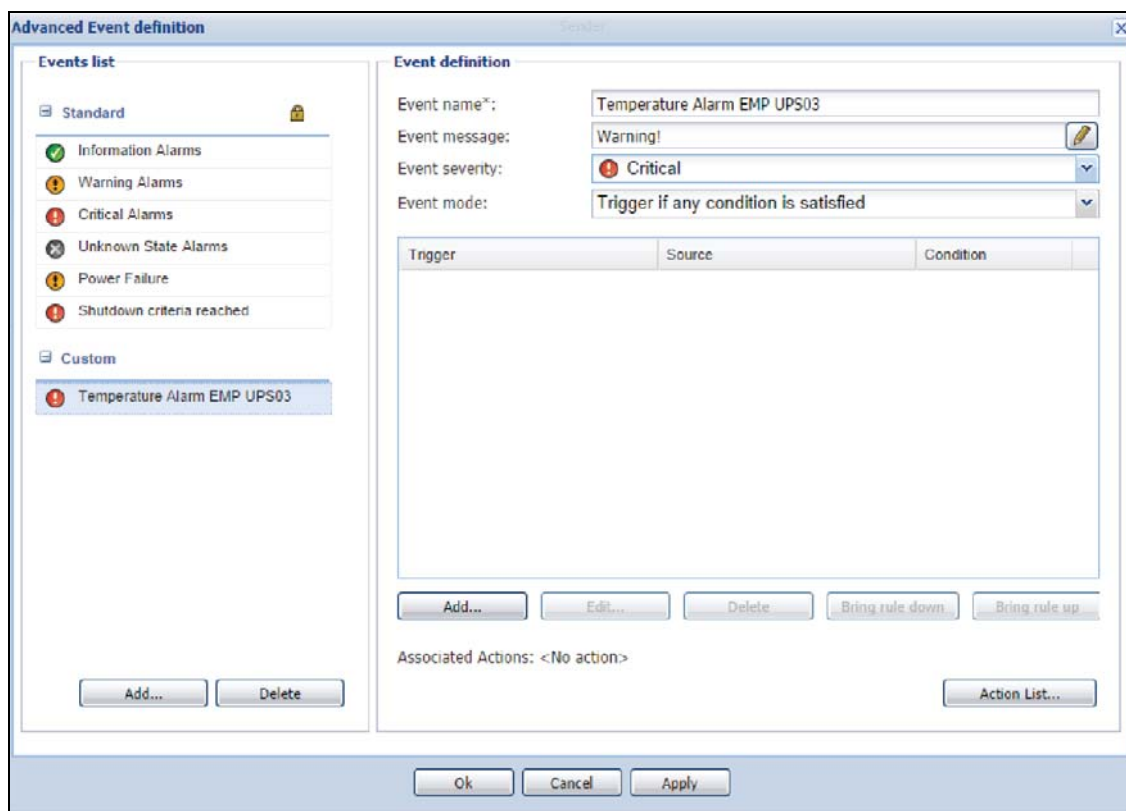

Figure 251. Advanced Event Definition
3. Add a custom event (see Figure 251).